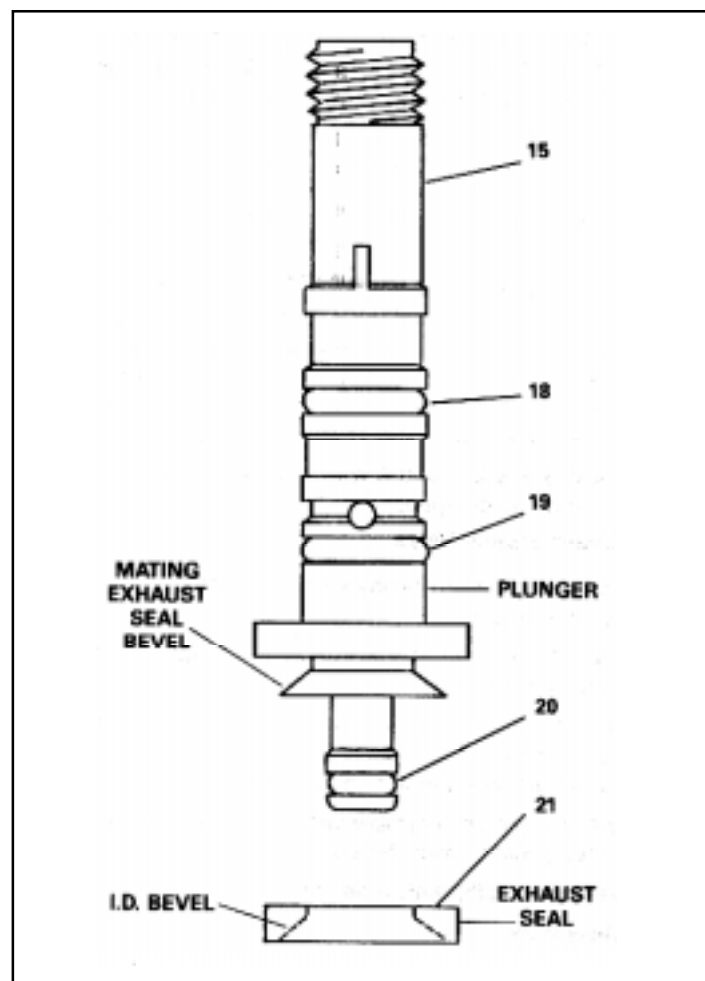

Figure 2
1. Remove the red(1) and yellow(2) buttons from the stems of the spools on the MV-3 valve by turning in a counterclockwise direction.
4. Remove the six Phillips head screws(4) from the cover plate(3) and carefully remove the cover plate(3) from the valve.
5. Remove the cap(5) and o-ring(6) from the bore of the tripper valve. Remove the piston(7), spring(8), spring(9) and check valve(10). These parts will all fall out of the cavity of the MV-3 by tilting the body forward. Remove the o-ring(11) from its groove on the piston(7).
6. Remove the two main spools from the body of the MV-3 valve by grasping the plunger(15) and pulling firmly. Remove the two springs(12) from the bottom of each spool cavity.
7. Pull the guide cap(13) and guide spool(14) over the threaded end of one of the plungers(15). Remove the o-ring(16) from the guide cap(13) and the o-ring(17) from the guide spool(14). Remove o-rings(18,19 & 20) and the exhaust seal(21) from the plunger. (Refer to Figure 2).
9. Remove the retaining ring(22) from the cavity of the MV-3 body that contains the dual circuit supply valve.
10. Using a pair of needle nose pliers, grasp the bar in the center of the cap(23) and remove the dual circuit valve assembly. Remove the three o-rings(24, 25 & 26) from the valve or from the cavity of the body, if some have remained there. Other than the three external o-rings, *do not* disassemble the piston assembly further.
### Spools (Refer to Figure 2)
**CAUTION: THE EXHAUST SEAL(21) MUST BE INSTALLED SO THAT ITS BEVELED SURFACE MATES WITH THE BEVELED SURFACE OF THE PLUNGER (Figure 2).**
5. Install o-ring(17) onto the guide spool(14) and o-ring(16) onto the guide cap(13). Place the guide cap on top of the guide spool and install entire assembly over the threaded end of the plunger(15) and press down firmly until it snaps into place.
6. Install spring(12) over the boss in the bottom of the spool cavity in the body of the MV-3 valve. Place the spool assembly into the body, keeping the spool square to the body press and turn the stem until the spool is fully seated in its cavity. Note the assembly is keyed and may only be installed one way.